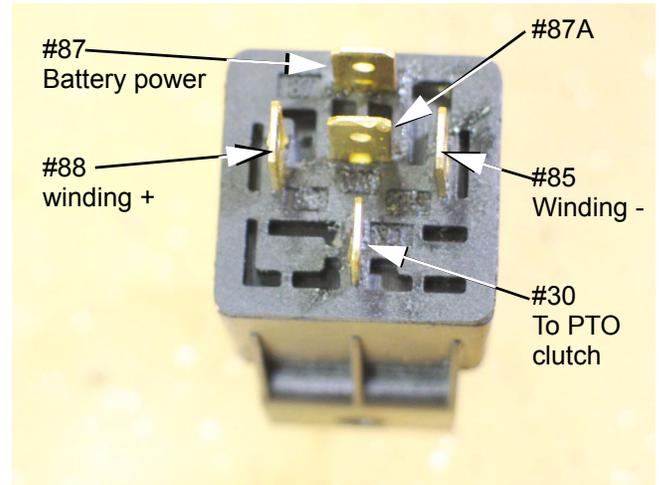

Figure 28.7
28.7. The PTO relay works as follows: See Figure 28.7.